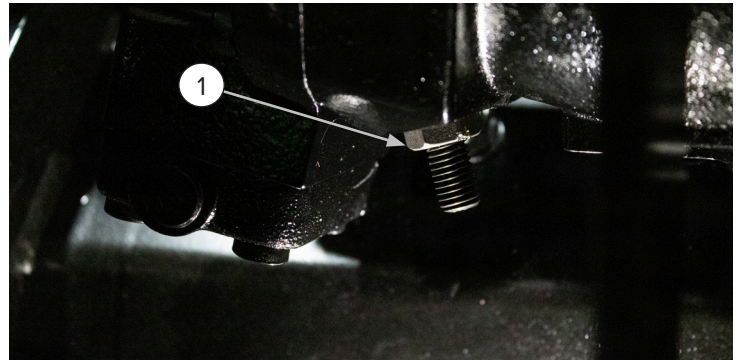

Figure 5
7. Loosen the jam nut, and turn the allen bolt to adjust the minimum displacement. Tighten the jam nut when complete. See Figure 5, Item 1.